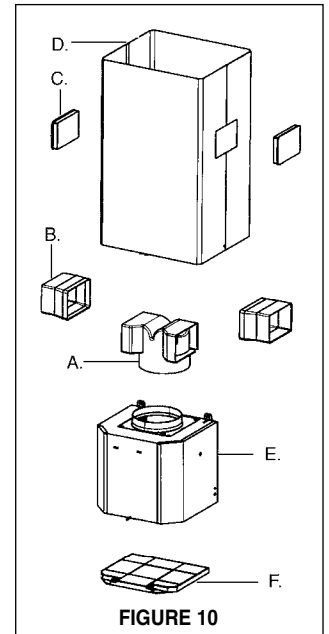
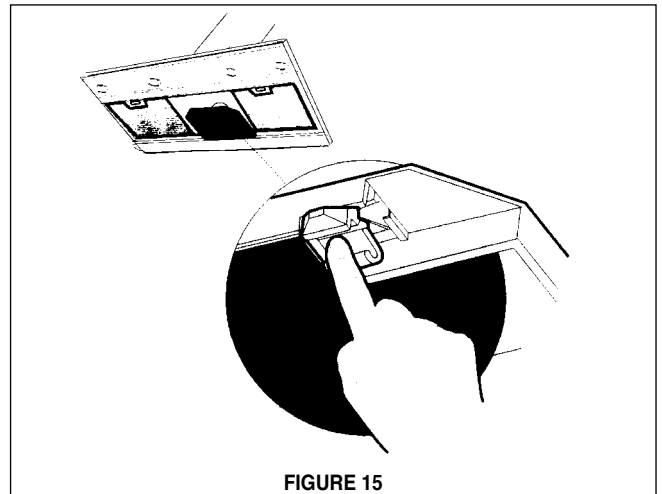

FIGURE 10
FIGURE 15
Ductless installations require a **Ductless Conversion Kit** whose components are pictured in FIGURE 10. Do not use the DAMPER (M in FIGURE 1) for ductless installations. The LOWER CHIMNEY COVER (B in FIGURE 1) should be discarded and replaced by the new one with holes from the **Ductless Conversion Kit** (D in FIGURE 10).
As indicated in FIGURE 10, place the DUCTLESS DIVERTER (A) over the exhaust opening of the EASY CUBE (E). Fit the DUCTLESS DIVERTER EXTENSIONS HORIZONTAL (B) into the DIVERTER (A).
For ductless installations, line up the DUCTLESS DIVERTER EXTENSIONS HORIZONTAL (B in FIGURE 10) with the holes in the LOWER CHIMNEY COVER (D in FIGURE 10) and snap in the VENT GRIDS (C in FIGURE 10).
- For ductless installations, install the CHARCOAL FILTER (F in FIGURE 10) behind the center grease filter opening by inserting and locking into place. (See FIGURE 15)